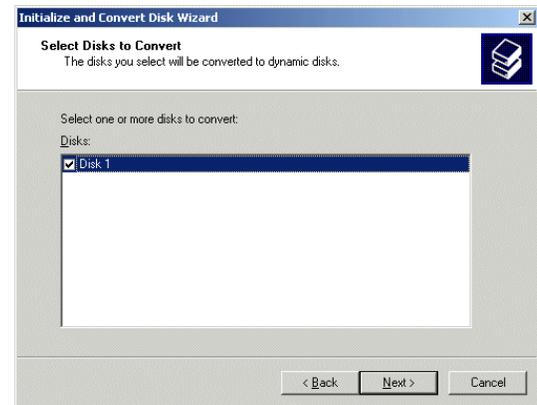

Figure 2-19
- 19) Click the **Next** button to be presented with the **Select Disk to Convert** screen. Click the **Disk 1** item as shown in Figure 2-19.